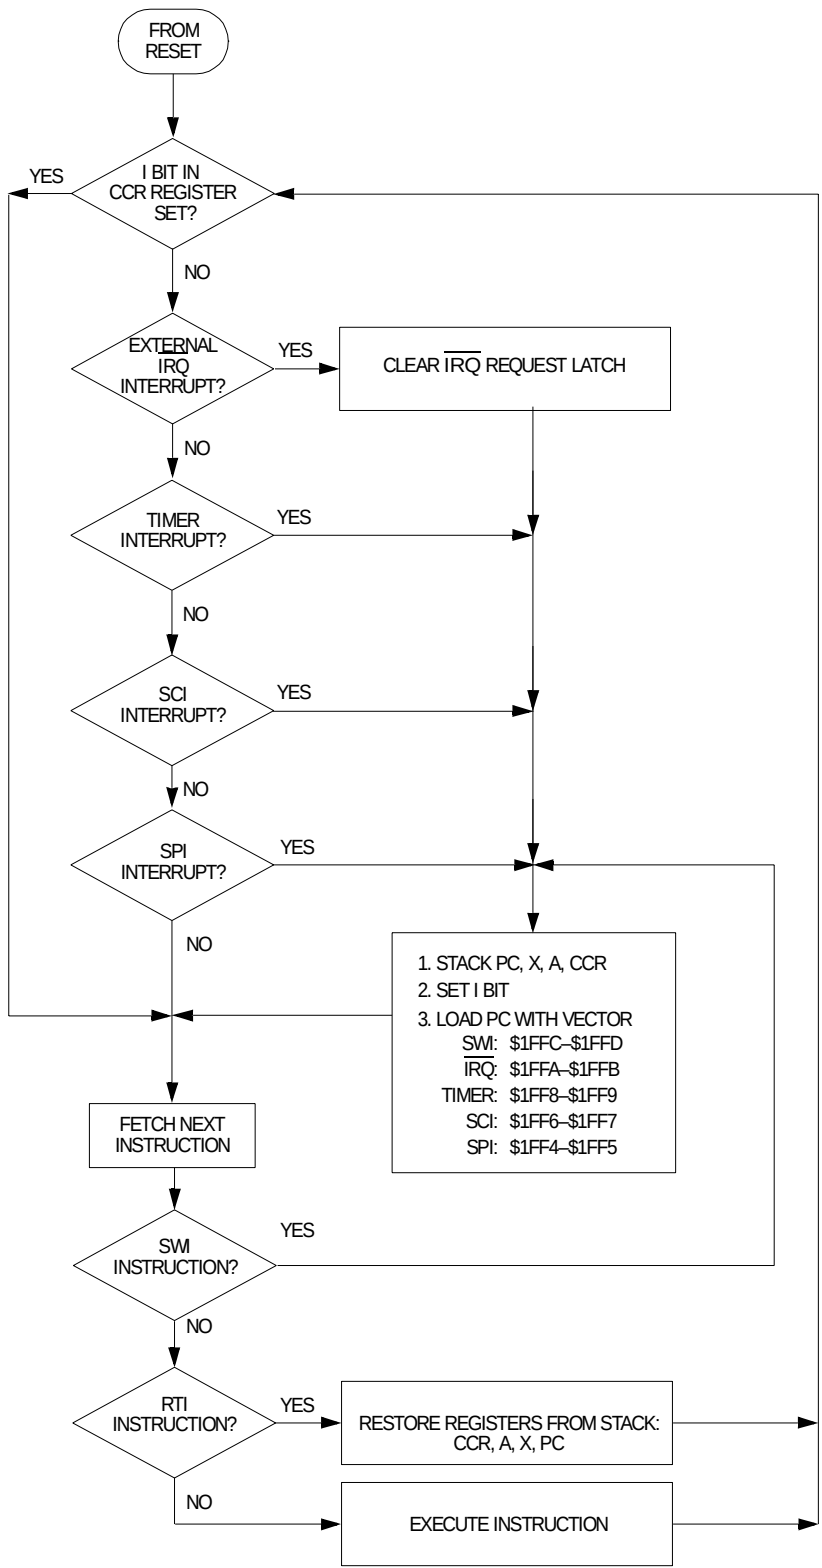

**Figure 4-5. Reset and Interrupt Processing Flowchart**
**Figure 4-5** shows the sequence of events caused by an interrupt.